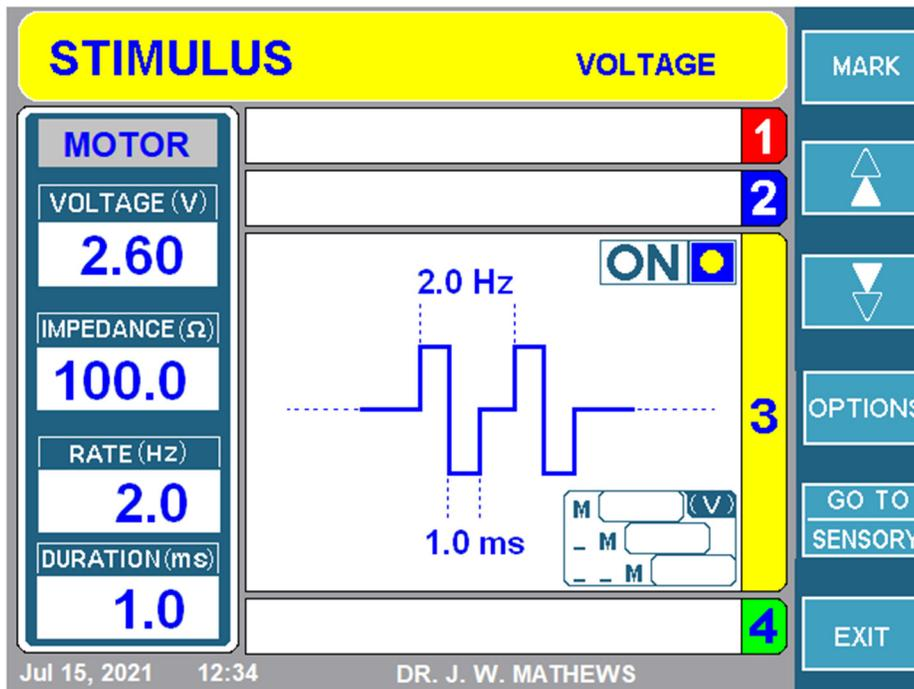

Figure 8-5
Step 3: Press the START button on the front panel to initiate the stimulation. Figure 8-5 illustrates a Motor Stimulation being applied to the probe connected to channel 3.